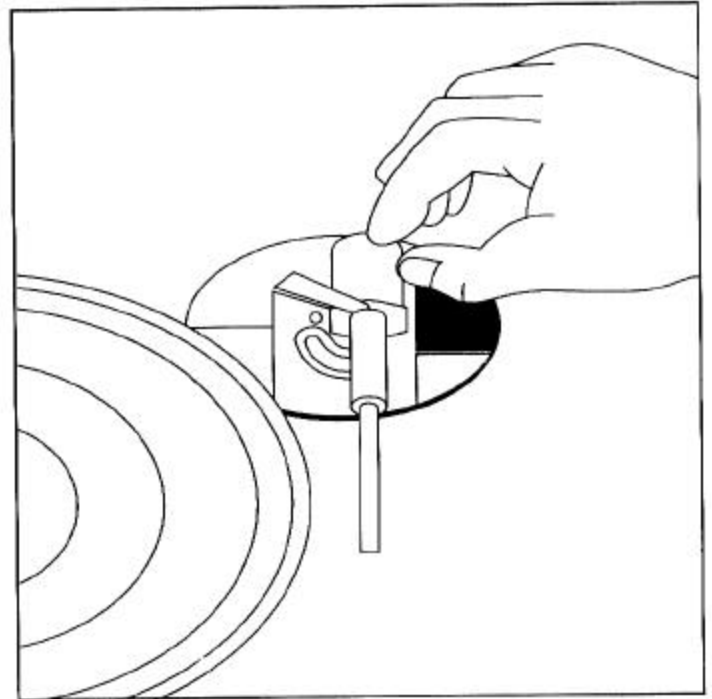

Figure 3A
D. COUNTERWEIGHT INSTALL (See Fig. 3A & 3B)
1. Slide the **COUNTERWEIGHT (7)** onto the rear of the **TONE ARM (5)**.
2. Twist the **COUNTERWEIGHT (7)** lightly clockwise, to screw it onto the rear of the **TONE ARM (5)**.
E. ADJUSTING HORIZONTAL ZERO (0) BALANCE AND STYLUS PRESSURE